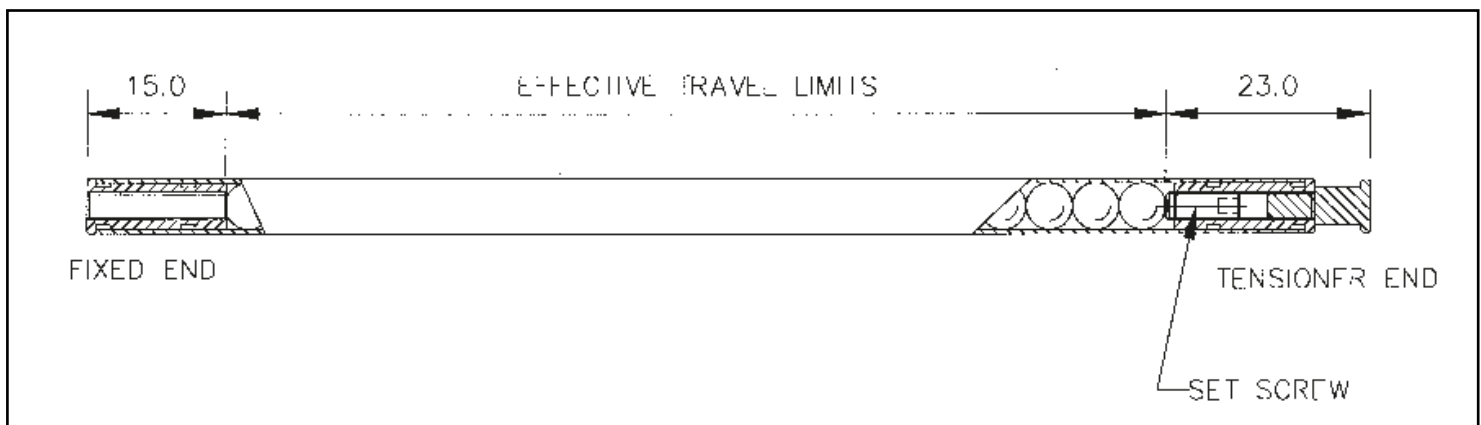

Figure 5.6 - Microsyn 300 Scale
- (A) Erroneous readings will occur if the Microsyn Reader Head is allowed to travel beyond Effective Travel Limits. (Refer to Figure 5.6)
- (B) The pre-load on the balls are factory set via the set screw at the tensioner end. Do not tamper with or adjust the set screw as this will alter the calibration and accuracy specification of the scale and void the warranty.